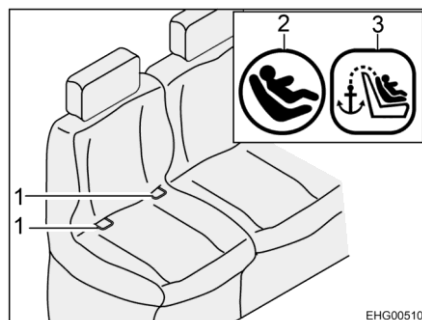
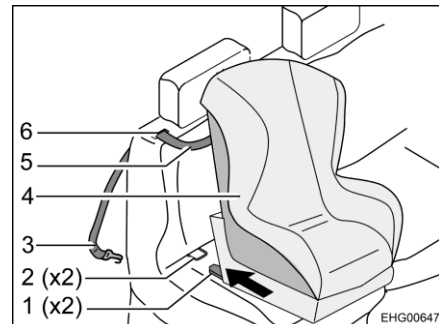

Fig. 9 Seat with ISOFIX
Fig. 10 Fastening with top tether
- Guide the top tether strap (Fig. 10,5) through the slot (Fig. 10,6) in the cushion of the backrest (next to the headrest).
- Hook the fixing hook (Fig. 10,3) onto the attachment point on the back of the vehicle seat.
- Have the connectors (Fig. 10,1) snap into the retaining clips (Fig. 9,1 and Fig. 10,2). While doing this, a distinctive click must be heard.
- With a strong jerk, check if the child seat (Fig. 10,4) is firmly connected.